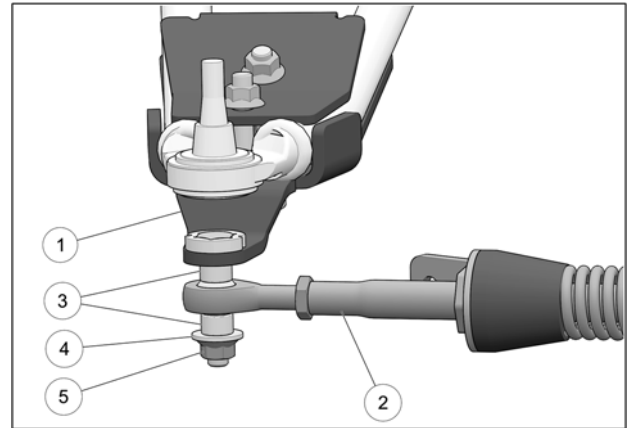

Fig. 20
9. Attach stabilizing rod (2) to anchor bracket (1), using the two spacer bushings (3), flat washer (4) and nut (5). Torque to 70 N•m [52 lb•ft]. See Fig. 20